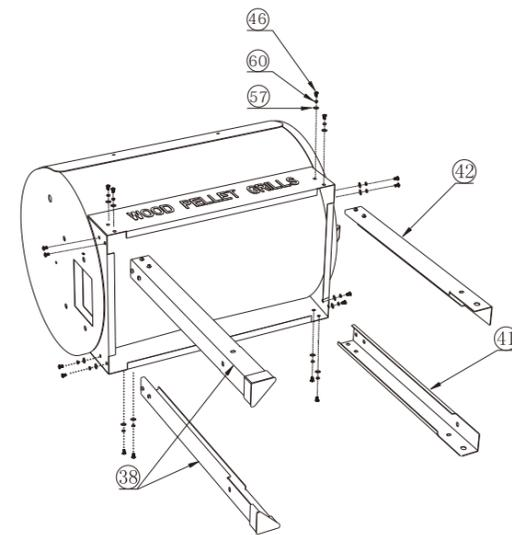

Figure 1
- 1.) With the help of another person, put the Chamber on cardboard, then attach 2 Left Legs(38) to Chamber(1) with 1/4-20*12mm Bolt(46), $\Phi 6.5 \times \Phi 10 \times 1.2$ mm Spring Washer(60) and $\Phi 6.5 \times \Phi 10 \times 1.0$ mm Gasket(57). As shown in Figure 1. Caution: The grill is very heavy. Always lift the grill with 2 people. (Do not over tighten the Bolts.)
- 2.) Attach Right Rear Leg(41) and Right Front leg(42) on the Chamber(1) by using 1/4-20*12mm Bolt(46) through $\Phi 6.5 \times \Phi 10 \times 1.2$ mm Spring Washer(60) and $\Phi 6.5 \times \Phi 10 \times 1.0$ mm Gasket(57). As shown in Figure 1. (Do not over tighten the Bolts.)